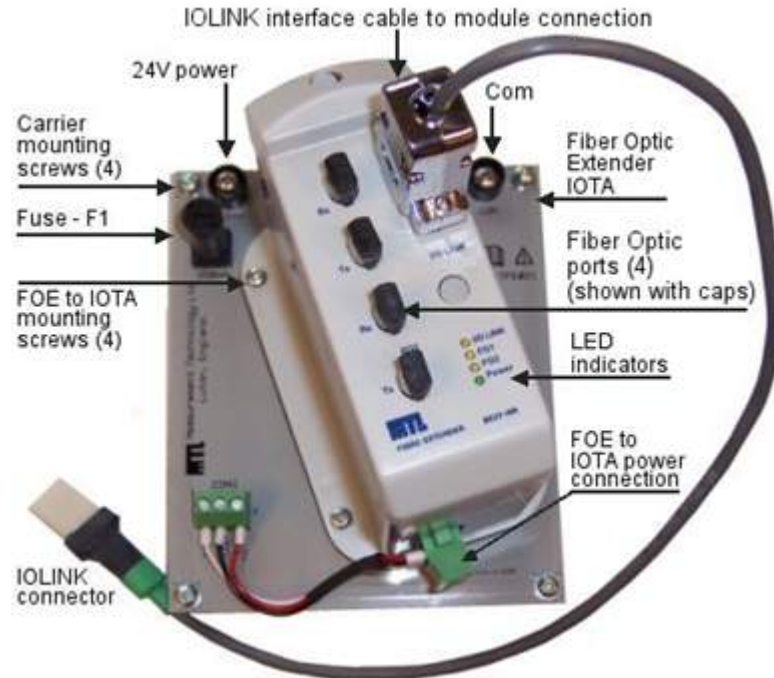

Figure 234: Fiber Optic Extender assembly
- 1 Align the FOE screws (located on the flange) with the holes on the IOTA. See Figure 234.